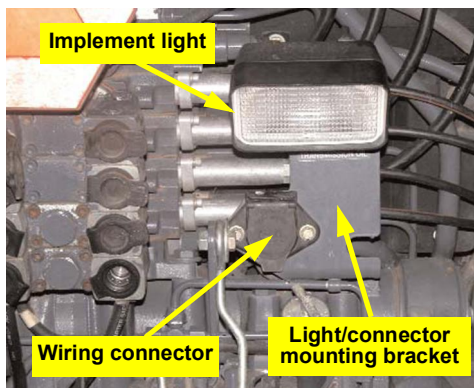

Figure 2a: Implement light, wiring connector and mounting bracket
- a. Remove the implement light located above the electric wiring connector at the back of the machine and the bolts securing the wiring connector to the light/connector mounting bracket (Figure 2a).